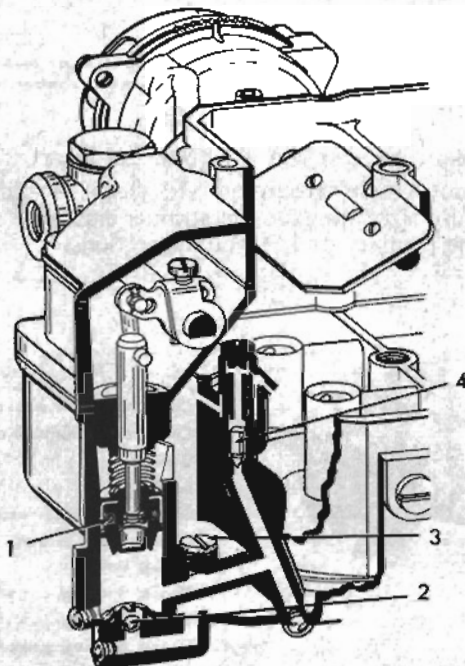

FIG. 78 PUMP SYSTEM
When the throttle is closed, the pump plunger moves upward in its cylinder and fuel is drawn into the pump cylinder through the inlet passage past the intake ball check (2, Fig. 78). The discharge needle (4) is seated at this time to prevent air from being drawn into the cylinder. When the throttle is opened, the pump plunger moves downward, forcing fuel out through the discharge passage, past the discharge needle, and out the pump jets. During this function, the